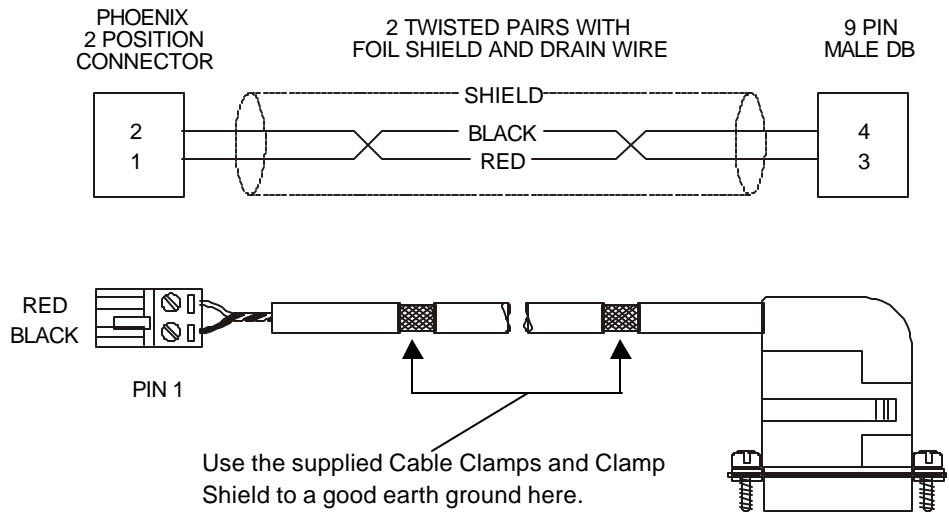

Figure 2.8 – Power Cable (Provided with HE697FBX105 and 100 Modules)
- a. Power Cable (9-Pin)      500A0015 (See Figure 2.8.)